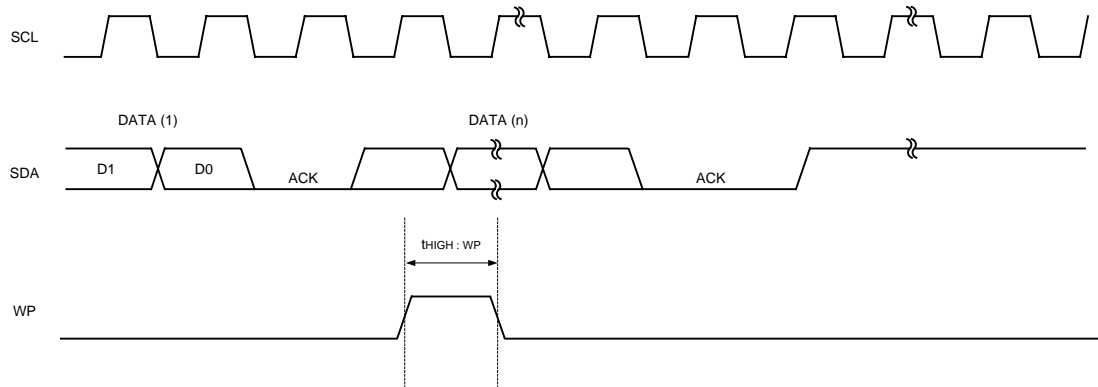

Fig.6(b) WP TIMING OF THE WRITE CANCEL OPERATION
- For the WRITE operation, WP must be "LOW" during the period of time from the rising edge of the clock which takes in D0 of first byte until the end of twr. ( See Fig.6 (a) )